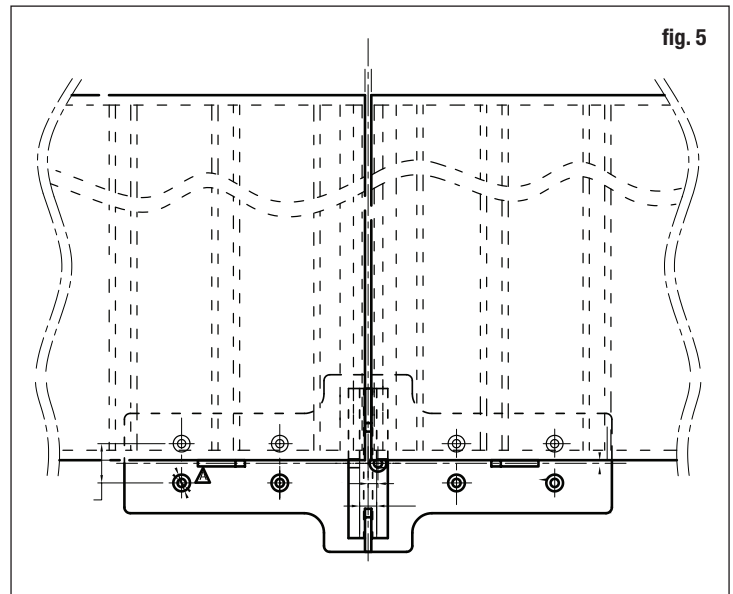

fig. 5
- You may now place subsequent rows (fig. 5).